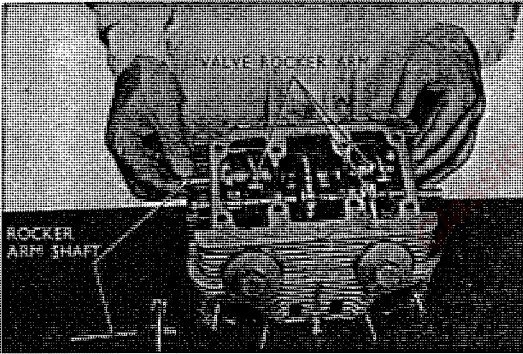

Fig. 3.27 Removing rocker arm
2. After the point base and the right side cover are removed, remove the tappet adjusting hole cap. Remove the rocker arm to the right and left on the base circle and the camshaft can be separated from the cylinder head. (Refer to Fig. 3.27 and 3.28)